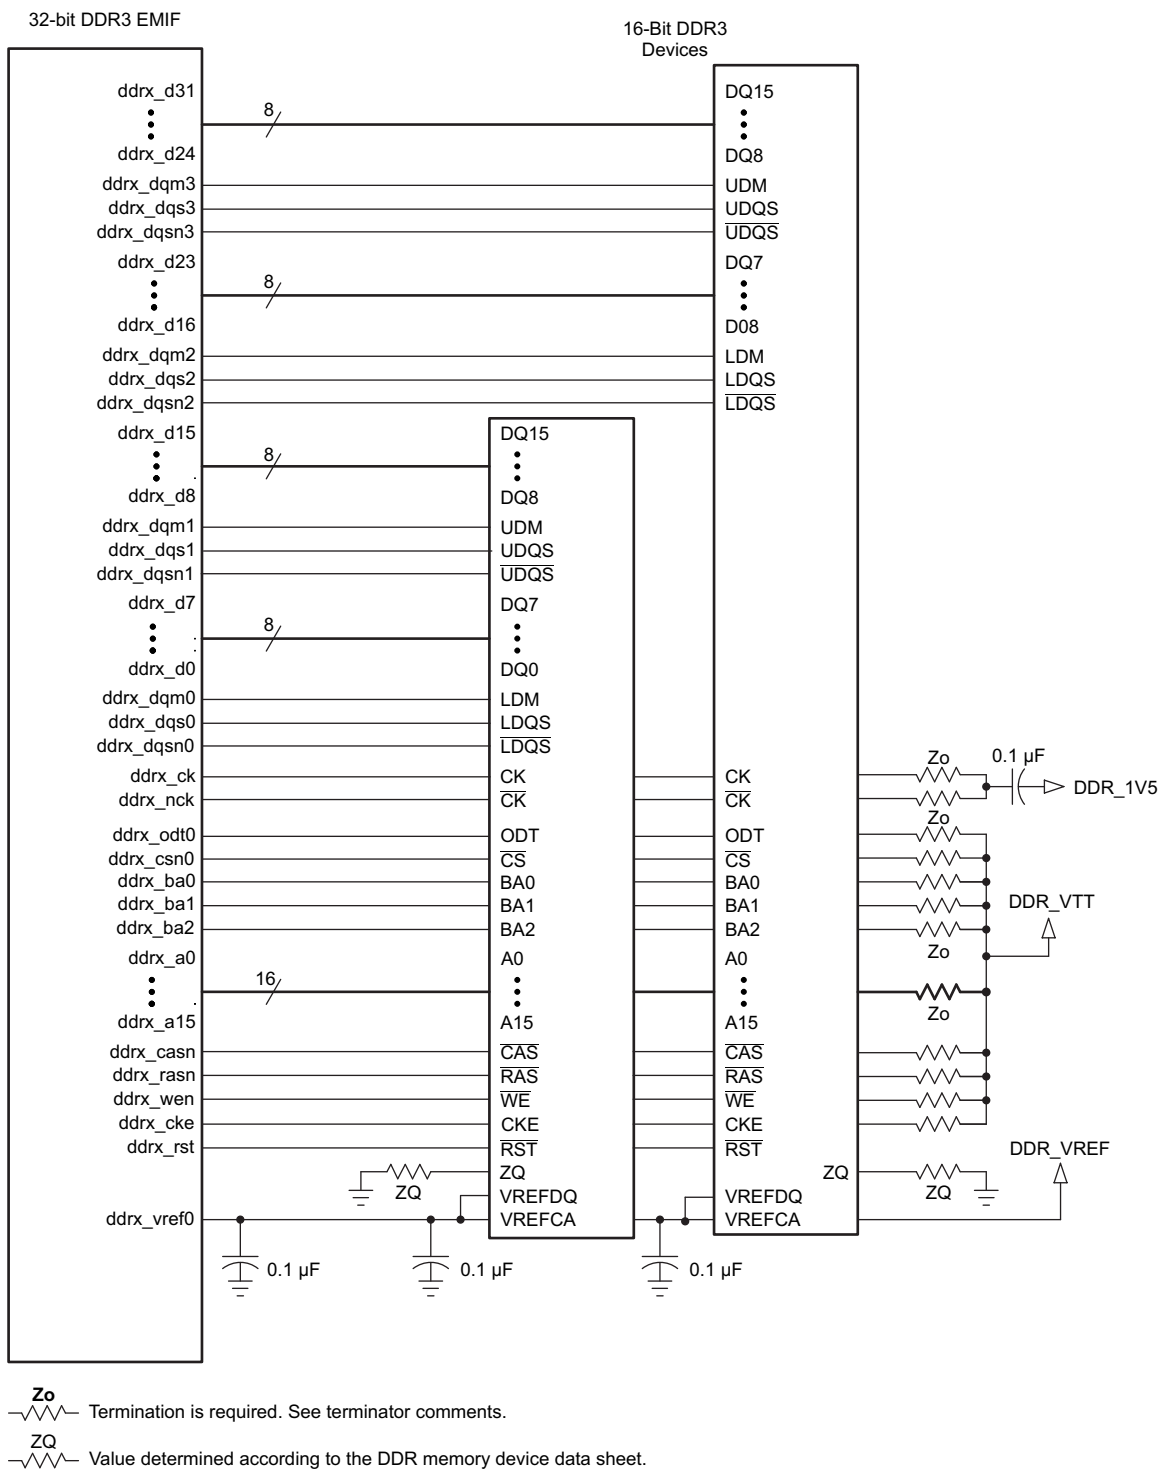

图 7-2. 32-Bit, One-Bank DDR3 Interface Schematic Using Two 16-Bit DDR3 Devices
The DDR3 interface schematic varies, depending upon the width of the DDR3 devices used and the width of the bus used (16 or 32 bits). General connectivity is straightforward and very similar. 16-bit DDR devices look like two 8-bit devices. 图 7-2 and 图 7-3 show the schematic connections for 32-bit interfaces using x16 devices.
Note that the 16-bit wide interface schematic is practically identical to the 32-bit interface (see 图 7-2 and 图 7-3); only the high-word DDR memories are removed and the unused DQS inputs are tied off.
(1) Refer to 表 7-2, Switching Characteristics Over Recommended Operating Conditions for DDR3 Memory Controller for the range of supported DDR clock rates.
(2) For valid DDR3 device configurations and device counts, see 节 7.2.2.4, 图 7-2, and 图 7-3.